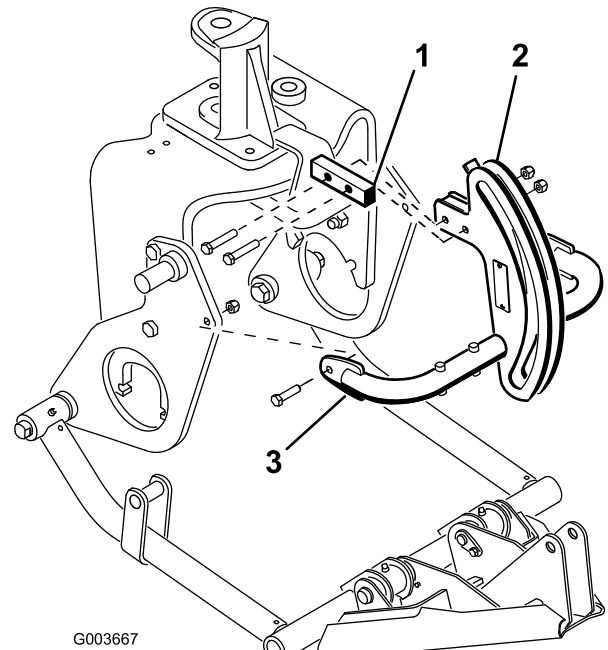

Figure 9
6. Mount the top of the hitch frame to the hitch frame bracket with 2 bolts (3/8 x 2 inches) and nuts (Figure 9).
7. Mount the hitch frame tubes to the plow plates with bolts (3/8 x 1-1/2 inches) and nuts (Figure 9). Tighten the fasteners.